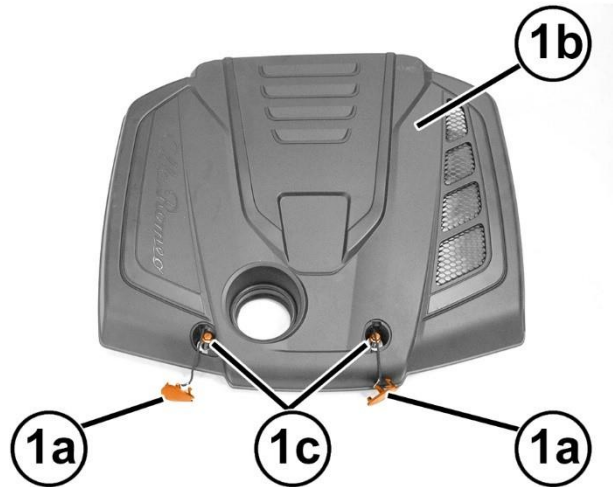

Figure 87 – Soundproofing Cover
18. Disengage covers (1a) of the cover (1b) and remove the screws (1c) (Figure 87).
19. Disengage from the rear retaining pins and remove the soundproofing cover (1b) complete with seal (2a) for the engine oil (Figure 87).